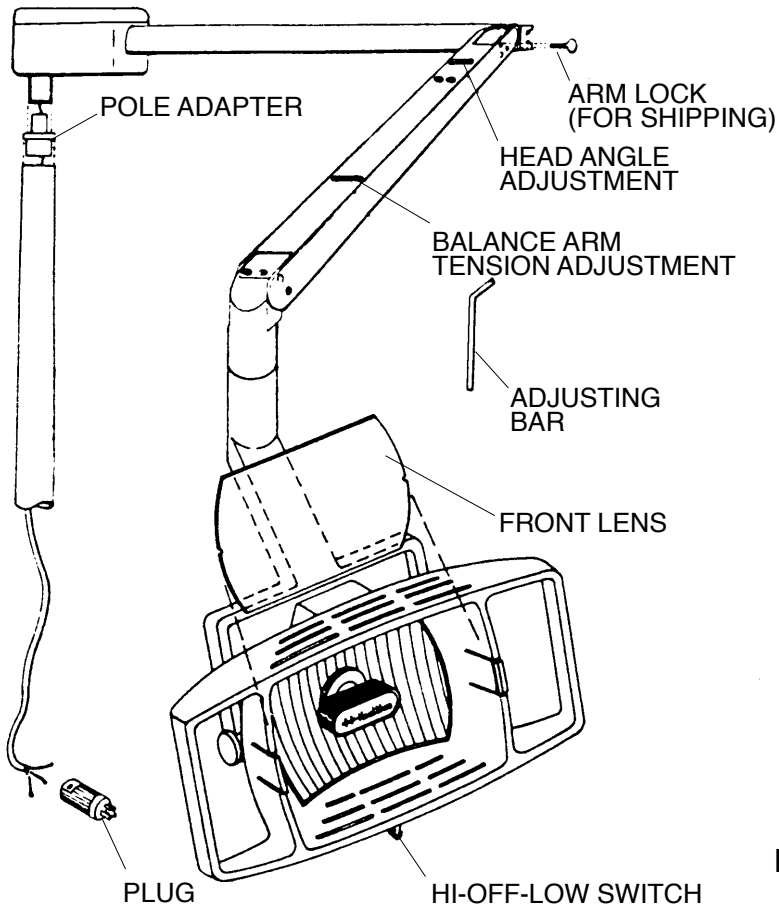

Figure 1
### 1) **SET-UP** (See Figure 1.)
- 4) **ADJUSTMENTS** - are normally not necessary. However, spring tension and light head angle can be adjusted with tool supplied used in appropriate slot. (See Figure 1.)